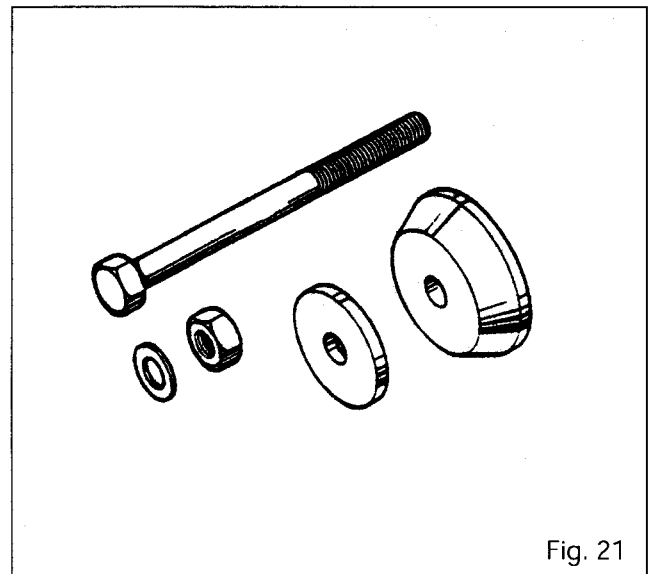

Fig. 21
**MF471 - Differential locking spring compression tool (Fig. 21)**